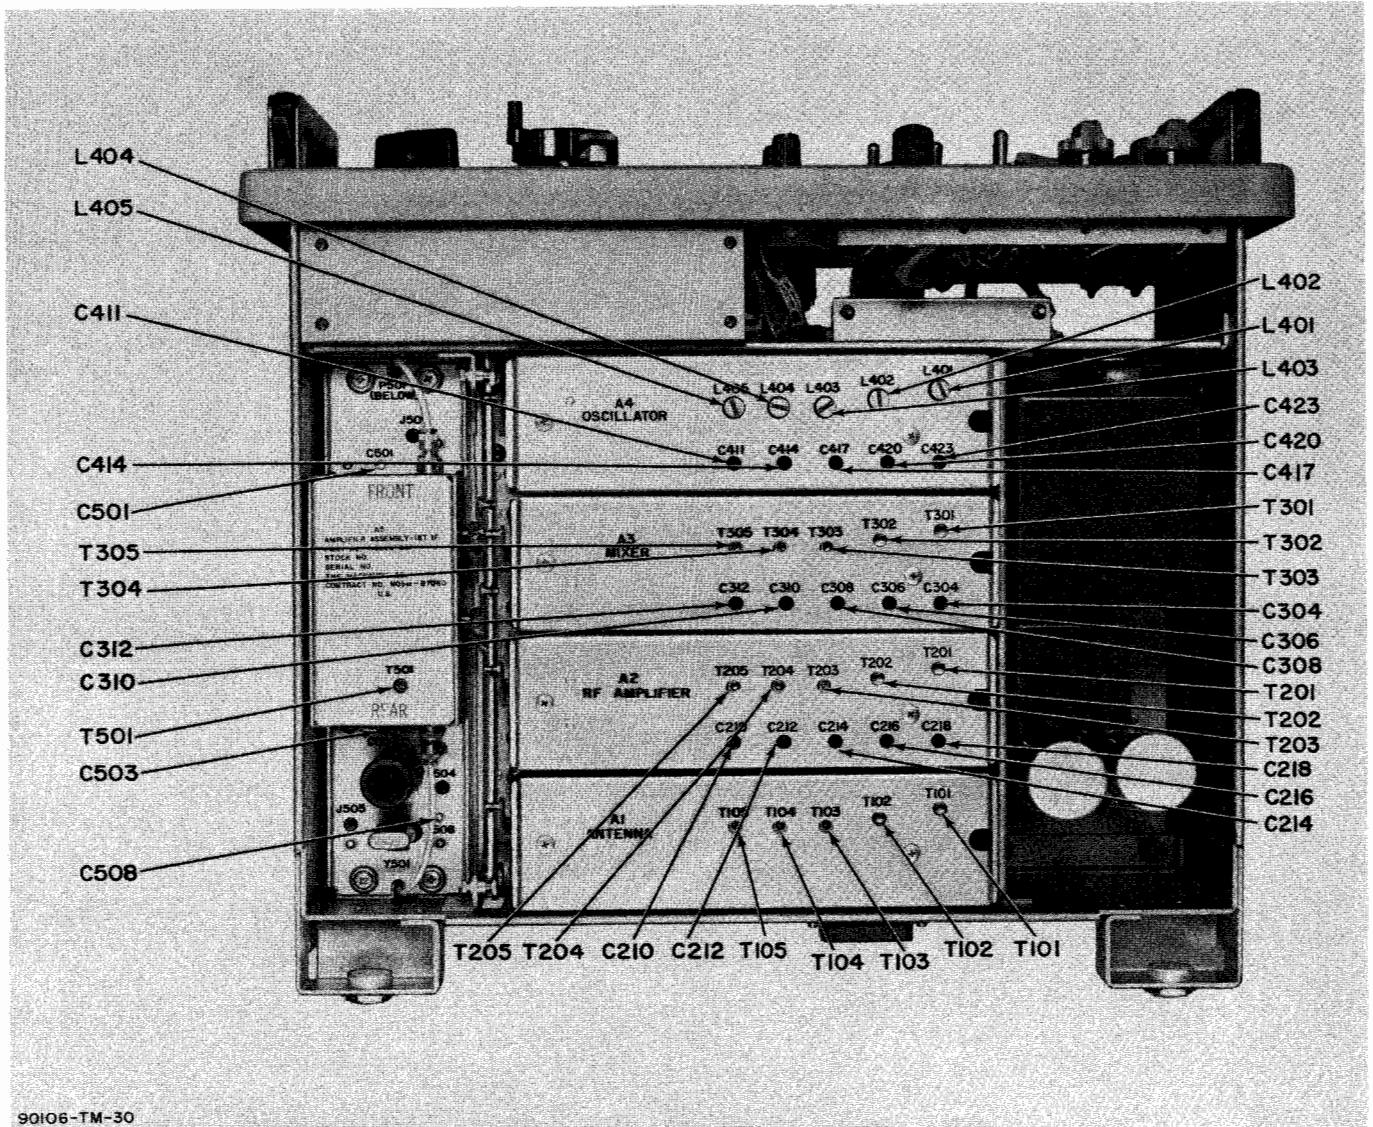

Figure 6-2. Alignment Controls, Bottom View
(4) Adjust T501 (see figure 6-2) for a maximum indication on the electronic multimeter.
(5) Connect the signal generator output to the frequency meter set.
(6) Tune the signal generator to 60 KC, unmodulated, as read on the frequency meter set.
(8) Adjust C508 (see figure 6-2) for maximum indication on the electronic multimeter.
(9) Adjust C501 and C503 (see figure 6-2) for a
(8) Adjust L401 (see figure 6-2) for a 200.00 KC output frequency as read on the frequency meter set.
(9) Tune the receiver to 28.9 KC.
(10) Tune signal generator for a 200.000 KC output as read on the frequency meter.
(11) Again connect the frequency meter to the HI RF OUTPUT of the signal generator and note the frequency.
(12) If the signal generator frequency differs greatly from the correct value of 28.9 KC, set the signal generator to the opposite side of 28.9 KC by 2.5 times the frequency error.
(13) Again connect the frequency meter to the receiver IF OUTPUT jack.
(14) Adjust C423 (see figure 6-2) for a 200,00 KC output as read on the frequency meter.
(15) Repeat items (4) through (14) until alignment error is less than 20 CPS on Band I. The allowable error on the remaining bands is as follows: Band II, less than 30 CPS; Band III, less than 40 CPS; Band IV, less than 50 CPS; Band V, less than 75 CPS.
(16) Repeat items (4) through (15) for the remaining bands using the frequencies and adjusting the parts listed in steps 2 through 5 of table 6-1 (see figure 6-2).
(17) Connect the signal generator output to test
(18) With the receiver dial set at 14.30 KC and the signal generator tuned to 14.300 KC, adjust T301, T201 and T101 (see figure 6-2) in that order, for a maximum indication on the electronic multimeter.
(19) Connect the HIGH RF OUTPUT of the signal generator to the frequency meter and tune the signal generator to 28.900 KC as read on the frequency meter.
(20) Tune the receiver to 28.90 KC.
(21) Adjust C304, C218 (see figure 6-2) and ANT. COMP, (see figure 3-1) in that order, for a maximum indication on the electronic multimeter.
(22) Repeat items (18) through (21) until there is no further change in the electronic multimeter indication.